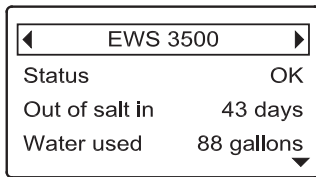

FIG. 50
1. Press the remote’s LEFT (◀) or RIGHT (▶) buttons to manually advance to the status screen for the device you want to check. The device name will show in the header. (See Figure 50).